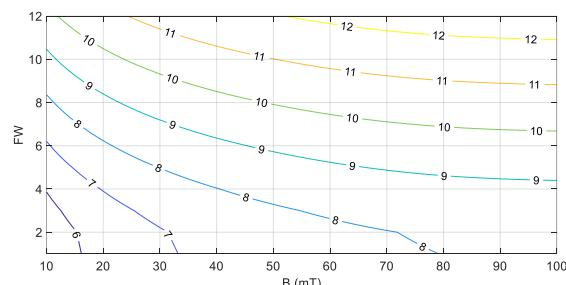

Figure 25: Resolution as a Function of the Magnetic Field and Window Size
The filter window (FW) determines the resolution (defined as the  $\pm 3\sigma$  noise interval). Figure 25 shows the resolution for different window sizes (FW) and magnetic fields (B).